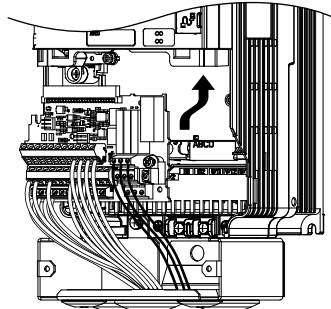

Figure 7.62 Install the Terminal Board
1. After wiring the main circuit, connect the terminal block to the drive as shown in Figure 7.62. Use the installation screw to fasten the terminal block into place.